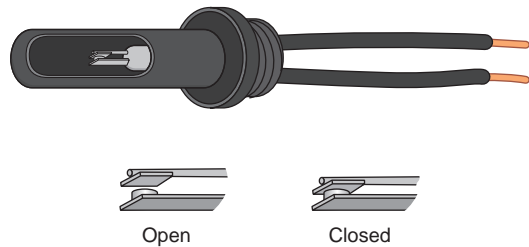

FIGURE 7-4 One type of recessed luminaire thermal protector. (Delmar/Cengage Learning)
When a Type Non-IC recessed luminaire gets overheated because of overlamping, mislamping, or being too close to thermal insulation, the thermal protector (Figure 7-4) trips off. When the luminaire cools down, it comes on again. This on-off cycling will repeat until the problem is corrected. These luminaires are marked “Blinking Light of
To protect against the hazards of overheating, UL and the *NEC* in 410.115(C) require that recessed luminaires be equipped with an integral thermal protector, as in Figure 7-4. These devices will cycle on and off repeatedly until the heat problem has been resolved. There are two exceptions to this requirement. Thermal protection is not required for recessed incandescent luminaires designed for installation directly in a concrete pour, or for recessed incandescent luminaires that are constructed so as to not exceed “temperature performance characteristics” equivalent to thermally protected luminaires. These luminaires are so identified.